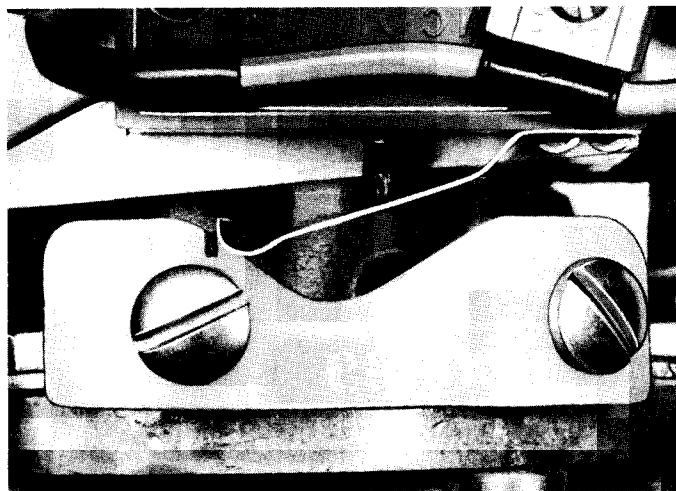

Figure 8. Reverse Interlock Switch Adjustment
2. Adjust reverse switch so that rubbing portion of spring leaf is  $\frac{1}{8}$ " below top of cam. (Figure 8)